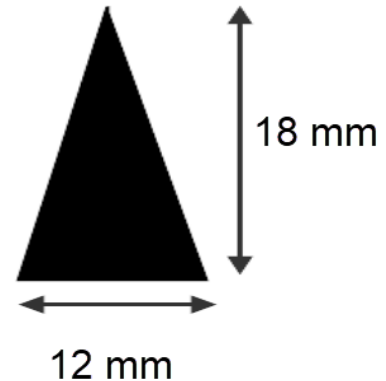

FIGURE 18
14. The adhesive must be applied in a triangular shaped bead of **18 mm X 12 mm** as shown on **FIGURE 18**. Using a cutter, cut the QUATTRO MIXER V-TIP #687958 to match these measurements.